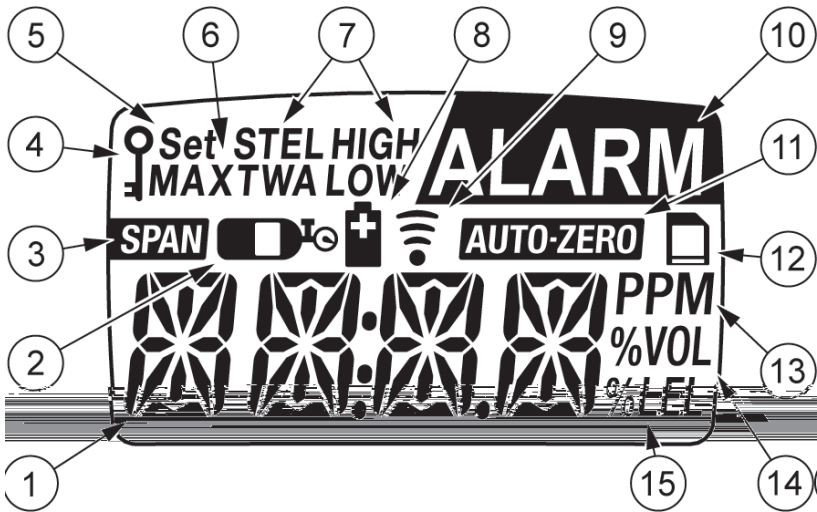

Figure 2. Display Elements
- ***Figure 2*** and : ***Table 4: Display Elements*** (describes the LCD screen and icons).